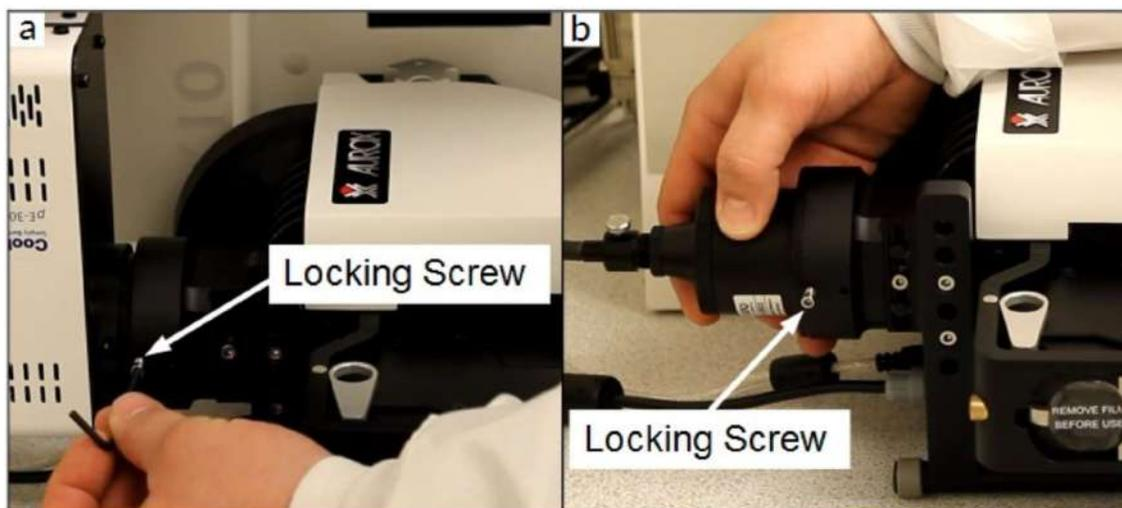

Figure 5.4.5 (a) Attaching a Light Source, (b) Direct coupling, Liquid light guide.
The light source connection port is found at the rear of the Clarity as shown in figure 5.4.5. Light sources may be directly fitted onto this port or may be attached by means of a liquid light guide.
1. Loosen the locking screw on the Clarity light source port as shown in figure 5.4.5 (a).
3. Insert the light source aperture, with the correct adapter into the Clarity light source port as shown in figure 5.4.5 (a) and tighten the locking screw to hold it firmly in place.
1. Loosen the locking screw on the Clarity light source port as shown in figure 5.4.5(b).
3. Insert the collimating light guide adapter into the Clarity light source port as shown in figure 5.4.5(b) and tighten the locking screw to hold it firmly in place.